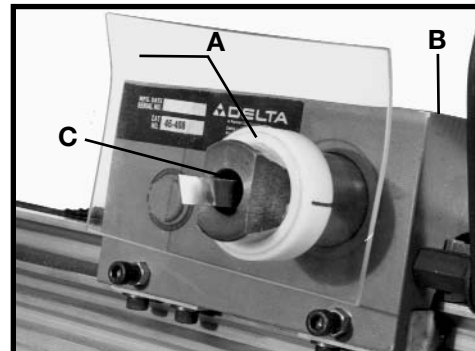

Fig. 46
The duplicator is supplied with a chip deflector assembly (A) Fig. 46 that keeps dust and wood chips from entering the carriage assembly (B).